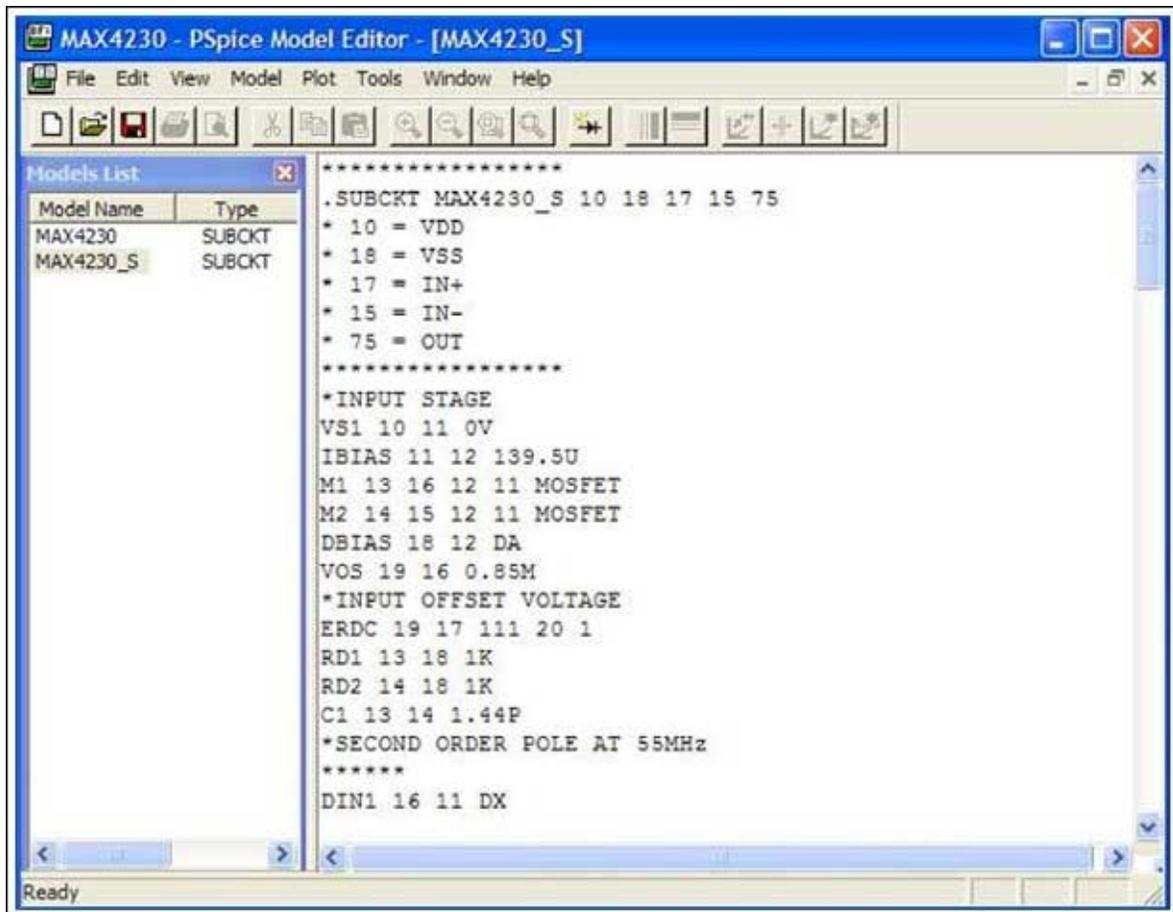

Figure 6. By reviewing the model's text one quickly determines how closely its pins correspond to the IC's actual input and output pins.
- Next view the PSpice model by right clicking the symbol and clicking "Edit PSpice model." A cursory look at the model's text will intuitively reveal how closely the symbol pin numbers correspond to the IC's actual input and output pins. See Figure 6.
From the model shown in Figure 6, the pin numbers are represented as: